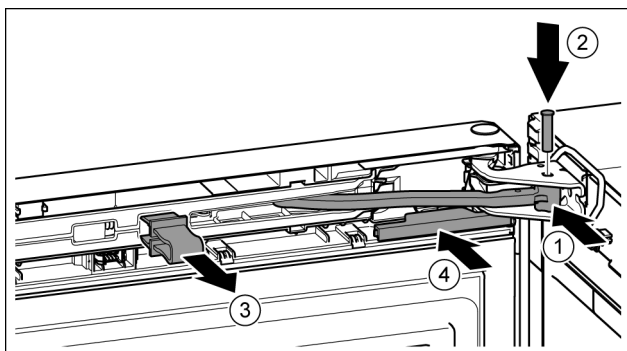

Fig. 22
- Turn the hinge in the bearing bracket. Fig. 22 (1)
- Insert the bolt in the bearing bracket and hinge. Make sure that the catch mechanism is sitting correctly in the groove. Fig. 22 (2)
- Remove the locking device. Fig. 22 (3)
- Slide on the cover. Fig. 22 (4)